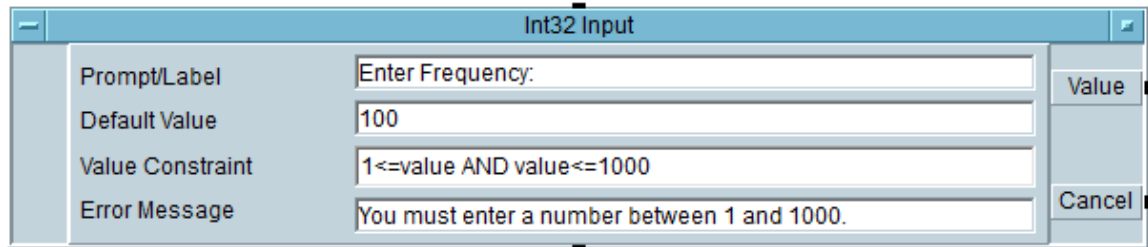

Fig. 14. Int32 Input Dialog Box for the frequency between 1 and 1000
- Fill the dialog Box as in Fig. 14. For this example, only the integer valued frequencies between 1 and 1000 Hz is acceptable. Otherwise, the error message written in **Error Message** field is displayed.